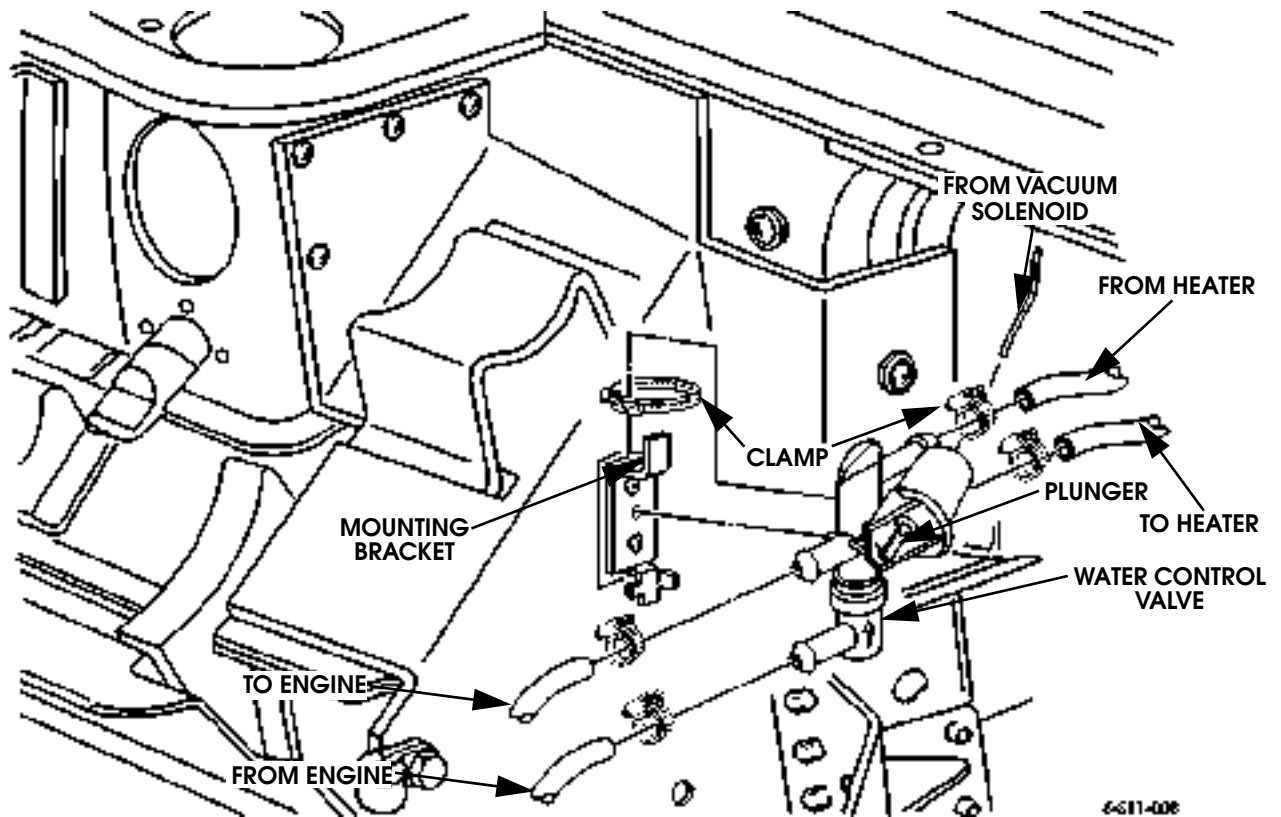

Figure 11-19: Water Control Valve Installation
1. Place a drain container under the vehicle directly below the control valve (Figure 11-19).
1. Gently secure control valve to mounting bracket with clamp (Figure 11-19).
4. Connect the valve vacuum hose (Figure 11-19).